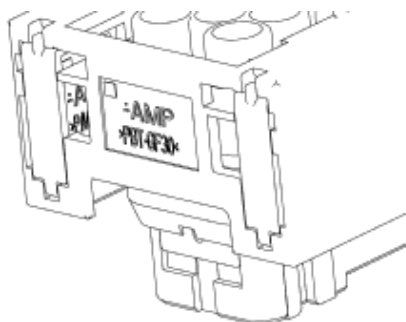

Fig. 17
**NOTE** Check Slide position. The operation should be made with same Slide position as shipping condition. See Fig. 17 for Slide shipping condition.